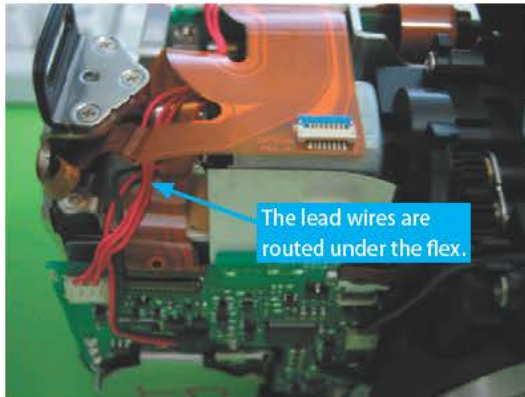

Fig. 085
- (4) Attach the lead wire from the Main PCB Ass'y to the MD Ass'y and make sure that the direction is correct. Route the lead wires as shown in Fig. 085, 086 and be careful that they do not go outside of the PCB.